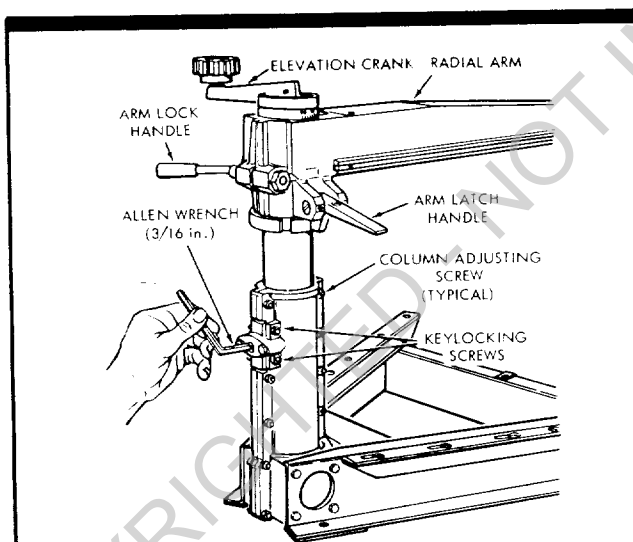

Figure 20
1. Set the radial arm at 0° index position, making sure the arm latch handle is in the detent notch, and tighten the arm lock handle. (See figure 20.)
3. Loosen two locking screws, insert a 3/16-inch Allen wrench into the socket-head set-screw that adjusts the column tube wedge key, as shown in figure 20. Rotate the set-screw slowly in (clockwise) until no side play can be felt in radial arm.